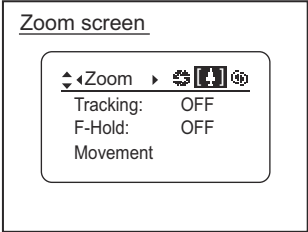

Fig1-7
5. Zoom screen  ..... (See Fig. 1-7 below)